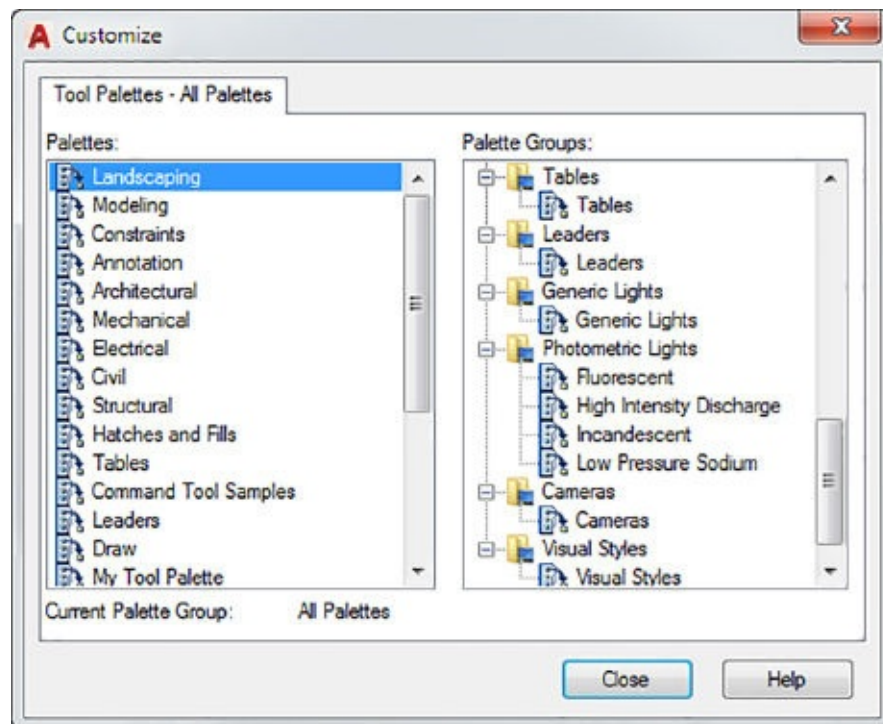

FIGURE 25.31 Customize dialog box for tool palettes
1. To open the Customize dialog box (see Figure 25.31), right-click the tool palettes title bar and choose Customize Palettes from the context menu.